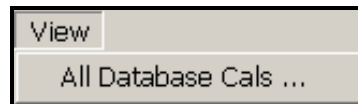

Figure 27. Database | Upload Reports | Import Report Dialog | View Menu
In **Figure 27** , the **View** menu on the **Import Report** dialog has only one (1) choice, which is discussed below.